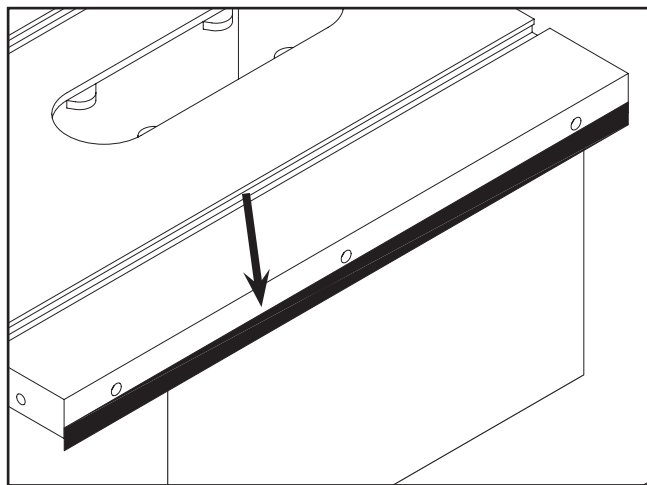

Figure 21. Masking tape location for adjusting extension table up.
- If either extension wings tilts down, loosen it and place a strip of masking tape along the bottom edge of the table (**Figure 21**).